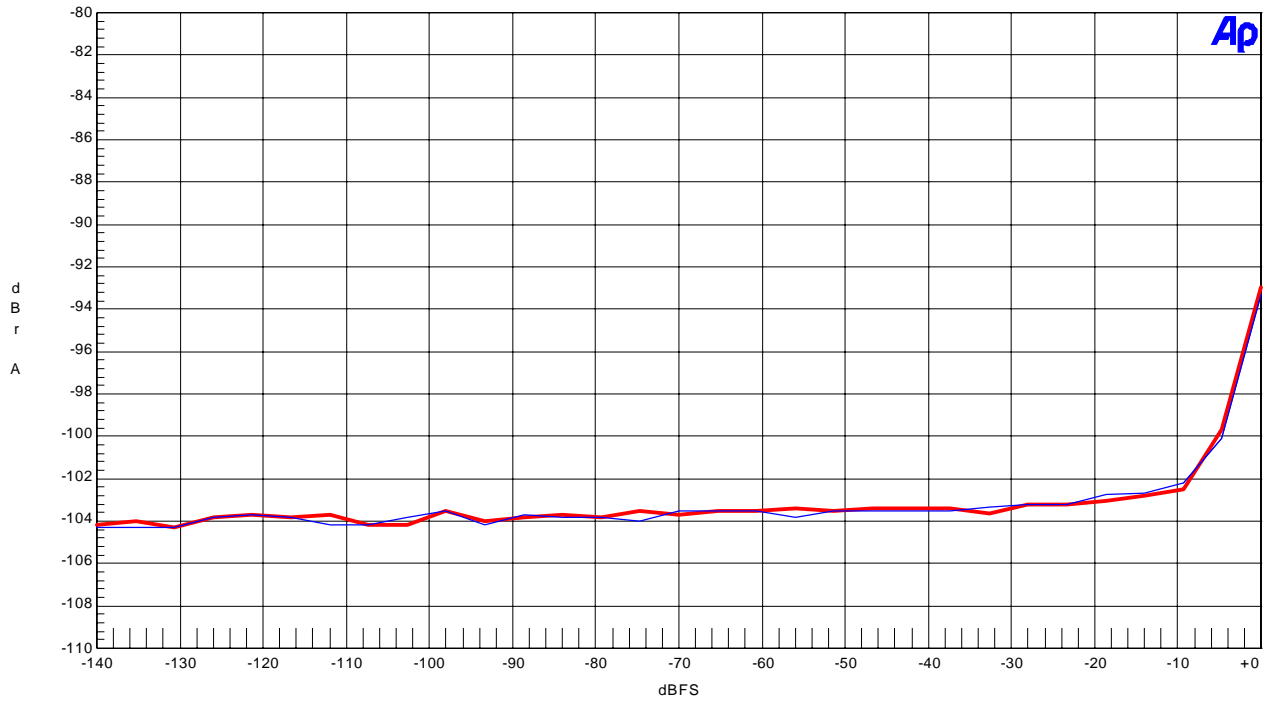

Figure 14. THD+N vs Input Level (fin=1kHz)
- Figure 14. THD+N vs Input Level (fin=1kHz)